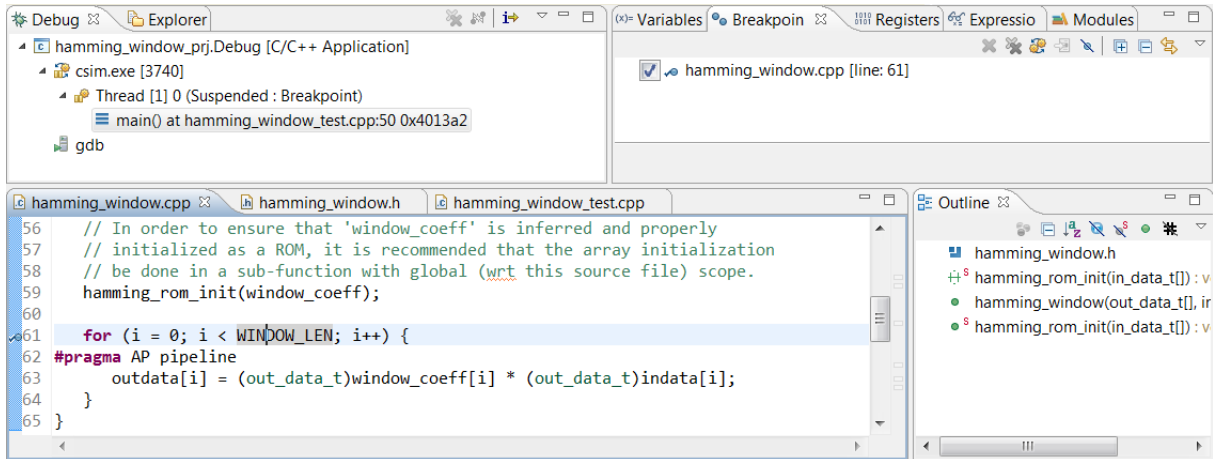

Figure 3-19: Debug Environment for C Validation Lab 3
- Set a breakpoint at line 62 in the `hamming_window.cpp` file as shown in Figure 3-19.